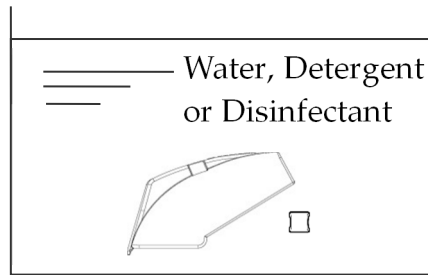

Fig.17 Immersion of the Magnetic sensor attachment and the Spacer for EZU-RV2S
- 2) Immerge the Magnetic sensor attachment and the Spacer for EZU-RV2S into the diluted detergent (see figure 17). Wipe the magnetic sensor attachment under the surface of the detergent solution with a single-use fluff free soft cloth to remove all visible soil.
- 2) Immerge the Magnetic sensor attachment and spacer for EZU-RVS2 into the disinfectant. (see figure 17). Set a clock to insure the recommended contact time is 5 minutes.